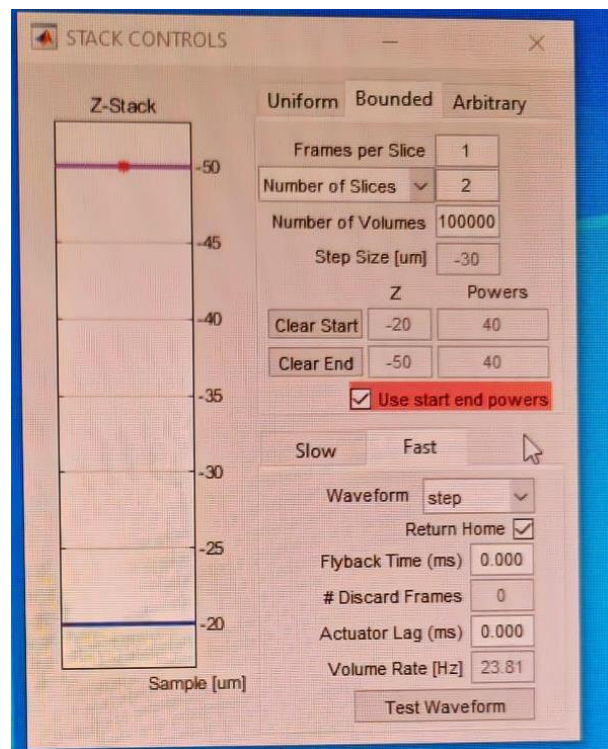

Fig. 7: ScanImage setting to alternate between two spots at different optical powers. Stack must be *ENABLED*.
- 3.7 Optimise settings in ScanImage to alternate the uTLens between two different focal lengths (see Fig.7). This approach allows to re-adjust scopebody P2 until the two spots at two different optical powers are centered.